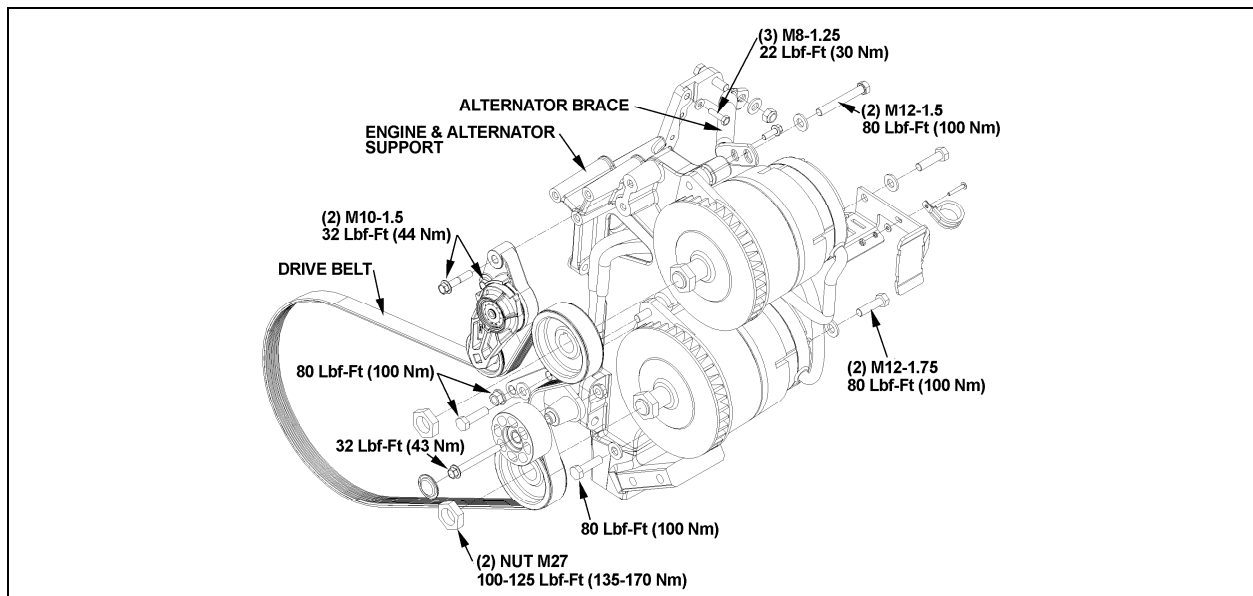

FIGURE 22: BOSCH ALTERNATORS MOUNTING TORQUES (VOLVO D13)
If the alternators needed to be removed, reinstall as follows. Refer to figures 22 and 23 for installation and tightening specifications:
1. If not already done, mount the alternator brace to the engine and alternator support (figure 22).
2. Bolt the alternators to the bracket using one 3.5 inch bolt at the top and two 1¾ inch bolts at the lower mounting bosses (fig. 22).
2. Insert a  $\frac{3}{4}$ " socket drive into the automatic belt tensioner opening (Fig. 22).